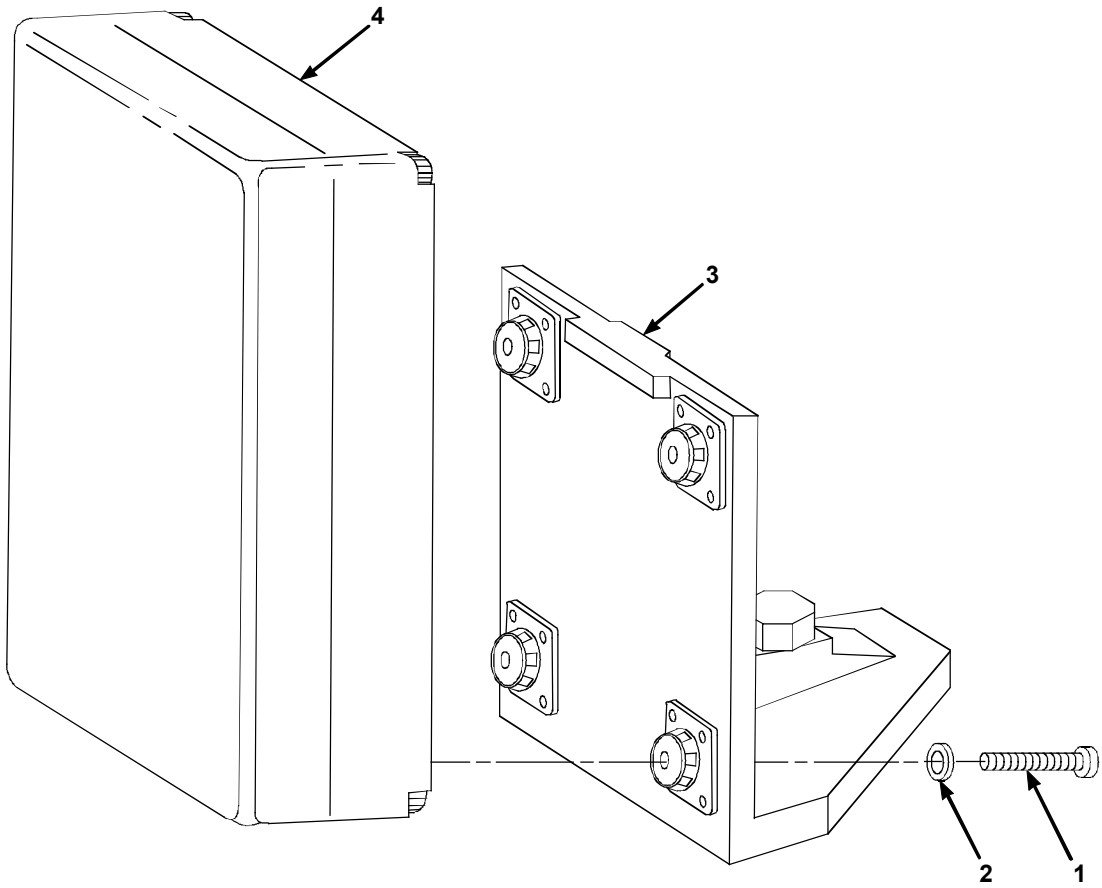
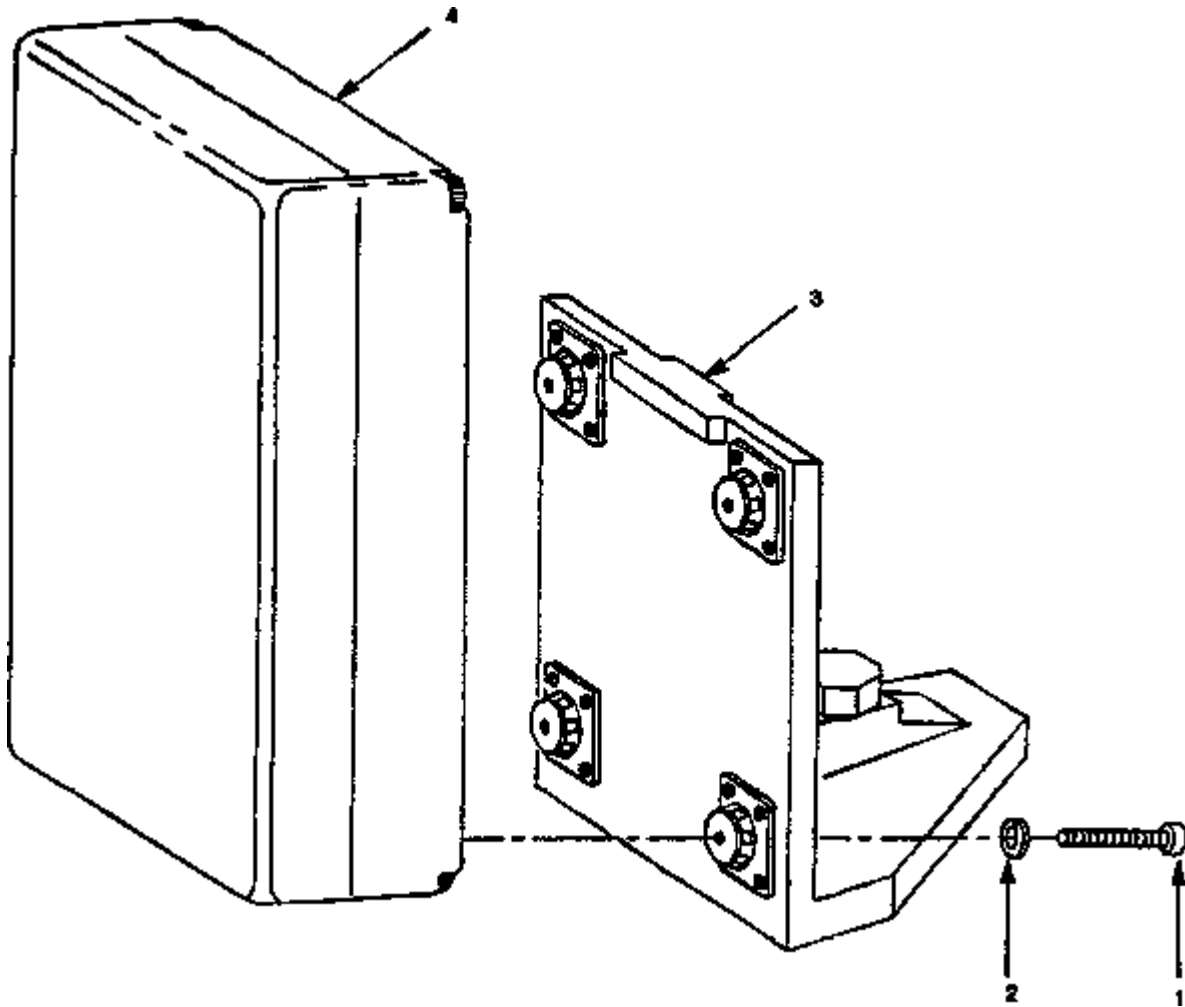

Figure 3-11. Bracket Assembly, P/N 1297003
Figure 3-12. Antenna Transceiver & Bracket Assy, P/N AY6709351-4, Removal and Installation
**3.5.5. Disassembly.** Refer to Figure 3-11. Disassemble Bracket Assembly as follows:
- a. Remove four screws (6), four lockwashers (7), and four flat washers (8) on each of the four resilient mounts (5) from machined bracket (4). Discard lockwashers (7).
- b. Unscrew and remove externally-relieved bolt (1), lockwashers (2) and round plain nut (3) from machined bracket (4).
**3.5.6. Assembly.** Refer to Figure 3-11. Assemble Bracket Assembly as follows:
- a. Insert lockwasher (3) and round plain nut (2) on externally relieved bolt (1).
- b. Screw externally relieved bolt (1) into machined bracket (4).
- c. Position four resilient mounts (5) on machined bracket (4) and secure each with four flat washer's (8), four new lockwashers (7), and 4 screws (6). Torque machine screws (6) to 9.8-10.8 in. lb (1.11-1.22 N.m).
**3.5.7. Removal of Bracket from Transceiver Assy.** Refer to Figure 3-12.
- a. Remove four hex socket screws (1 ) and four lockwashers (2).
- b. Remove Bracket Assy (3) from Transceiver Assy (4).
**3.5.8. Installation of Bracket from Transceiver Assy.** Refer to Figure 3-12.
- a. Attach Bracket Assy (3) and Transceiver Assy (4).
- a. Install four hex socket screws (1) and four lockwashers (2).
**3.6.2. Removal.** Refer to Figure 3-12. Remove Transceiver Assy as follows:
- a. Remove four screws (1 ) and four lockwashers (2) using 5-mm hex key wrench.
- b. Remove Transceiver Assy (4) from Bracket Assy (3).
**3.6.3. Installation.** Refer to Figure 3-12. Install Transceiver Assy to Bracket Assy as follows:
- a. Attach Transceiver Assy (4) to Bracket Assy (3).
- a. Install four screws (1 ) and four lockwashers (2) using 5-mm hex key wrench.